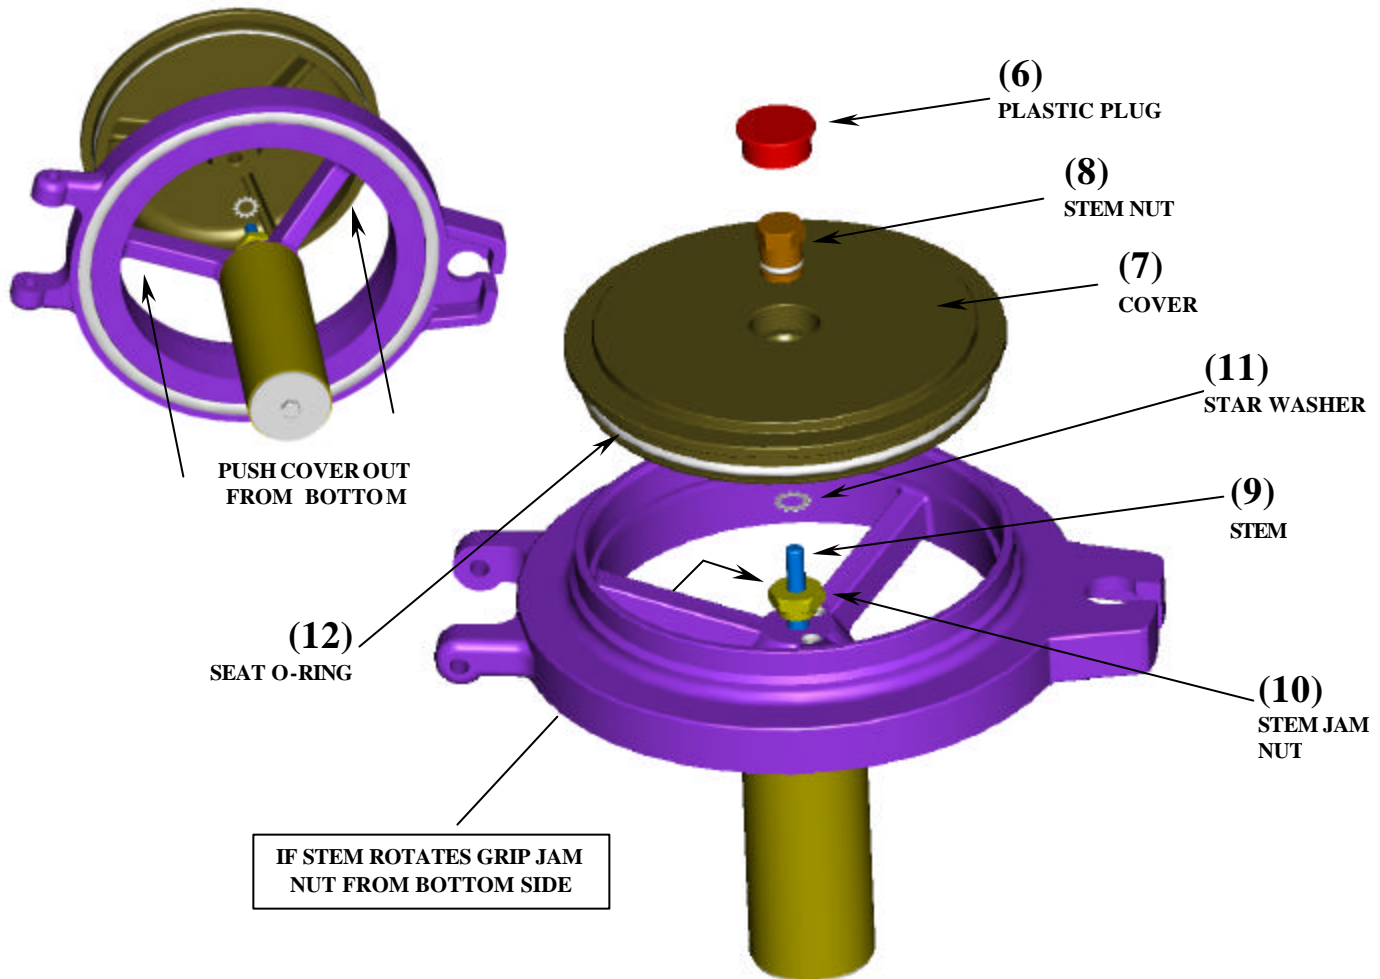

Figure 6
4. Remove red *Plastic Plug* (6) by prying from top of *Cover* (7) as shown in figure 6.
5. Unscrew *Stem Nut* (8) using a $\frac{7}{8}$ " socket wrench.
- 5.1. If *Stem* (9) turns with *Stem Nut* (8), grip *Stem Jam Nut* (10) with a 1" wrench from the bottom side to prevent *Stem* from turning while unscrewing *Stem Nut*.
6. To remove *Cover* (7), gently push up from bottom side of SSRV. Push evenly to prevent the *Cover* from jamming in the SSRV bore. See figure 6 sub-view.
7. Remove *Star Washer* (11).
8. If the *Seat O-ring* (12) requires replacement, cut the o-ring with a razor blade, being careful not to damage the o-ring groove.
- 8.2 Next, place the *Star Washer (11)* on the *Stem* and gently slide the *SSRV Cover (7)* into place over the *Stem*. See figure 6 of section 3.